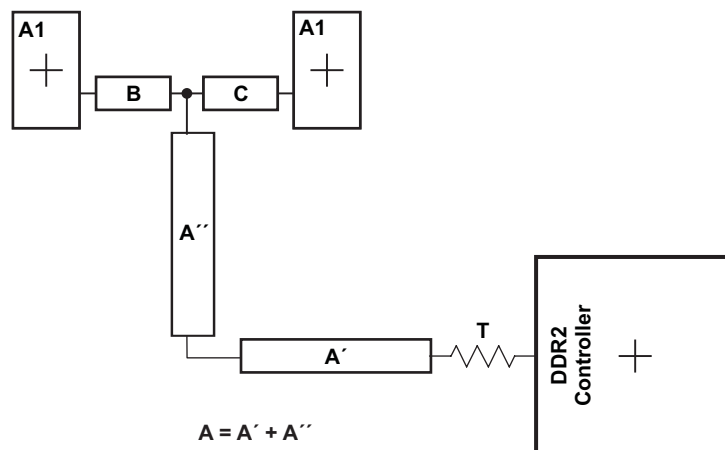

Figure 8-52. CK and ADDR_CTRL Routing and Topology
Figure 8-52 shows the topology of the routing for the CK and ADDR_CTRL net classes. The route is a balanced T as it is intended that the length of segments B and C be equal. In addition, the length of A ($A' + A''$) should be maximized.
(1) The length of segment A = $A' + A''$ as shown in Figure 8-52.
(2) Series terminator, if used, should be located closest to the processor.
(3) Center-to-center spacing is allowed to fall to minimum (w) for up to 500 mils of routed length to accommodate BGA escape and routing congestion.
(4) CACLM is the longest Manhattan distance of the CK and ADDR_CTRL net classes.